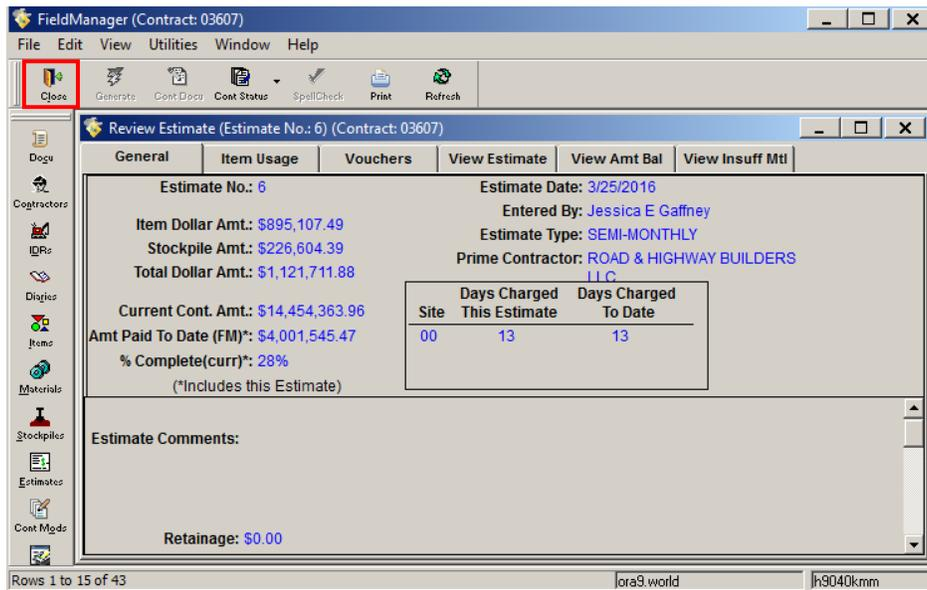

Figure 11-17. Review Estimate Tab Window – General Tab
3. The Review Estimate tab window opens in the **General tab** in a mode in which you can view, but not change information (Figure 11-17).